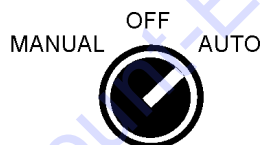

Figure 14. Control Box Power ON Indicator
3. Verify that the **ON** indicator (Figure 14) on the control box is **LIT**. This means that power is being supplied to the control box.